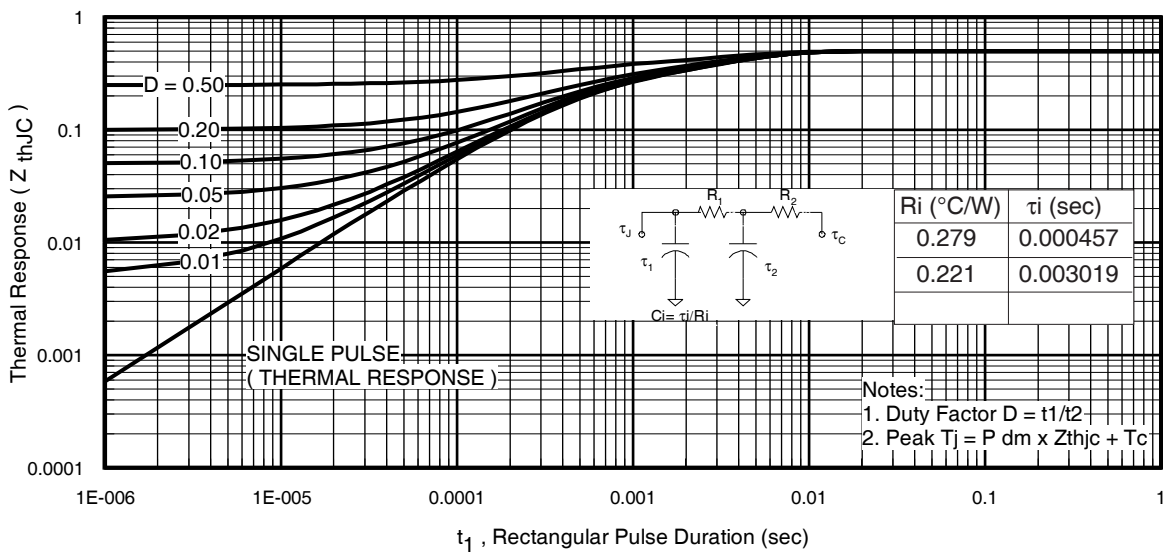
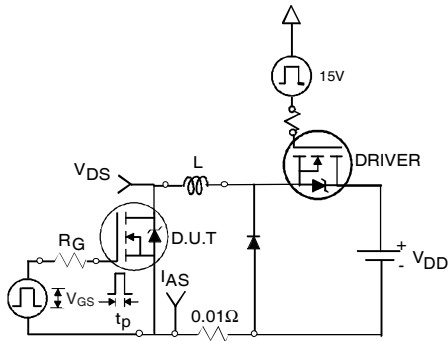

Fig 11. Maximum Effective Transient Thermal Impedance, Junction-to-Case
Fig 12a. Unclamped Inductive Test Circuit
- ① Repetitive rating; pulse width limited by max. junction temperature. (See fig. 11).
- ② Limited by T_{Jmax} , starting $T_J = 25^\circ\text{C}, L=0.095\text{mH}, R_G = 25\Omega, I_{AS} = 75A, V_{GS} = 10V$. Part not recommended for use above this value.
- ③ $I_{SD} \leq 75A, di/dt \leq 340A/\mu s, V_{DD} \leq V_{(BR)DSS}, T_J \leq 175^\circ\text{C}$.
- ④ Pulse width $\leq 1.0\text{ms}$; duty cycle $\leq 2\%$.
- ⑤ $C_{oss\ eff.}$ is a fixed capacitance that gives the same charging time as C_{oss} while V_{DS} is rising from 0 to 80% V_{DSS} .
- ⑥ Limited by T_{Jmax} , see Fig.12a, 12b, 15, 16 for typical repetitive avalanche performance.
- ⑦ This value determined from sample failure population. 100% tested to this value in production.
- ⑧ This is applied to D²Pak, when mounted on 1" square PCB (FR-4 or G-10 Material). For recommended footprint and soldering techniques refer to application note #AN-994.
- ⑨ R_θ is measured at T_J of approximately 90°C .
- ⑩ TO-220 device will have an R_{th} of 0.45°C/W .
3. Equation below based on circuit and waveforms shown in Figures 12a, 12b.
$Z_{thJC}(D, t_{av})$ = Transient thermal resistance, see figure 11)